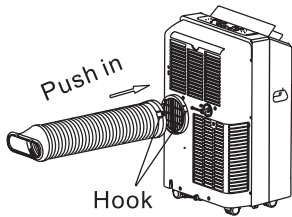
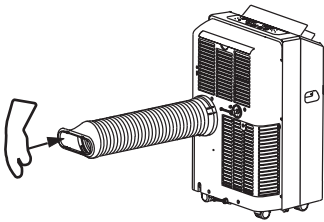

Fig.19
Fig.20
2. Place the Exhaust hose over against the air outlet opening hook (See Fig.19) and flat the other end (See Fig.20) for quick installation.